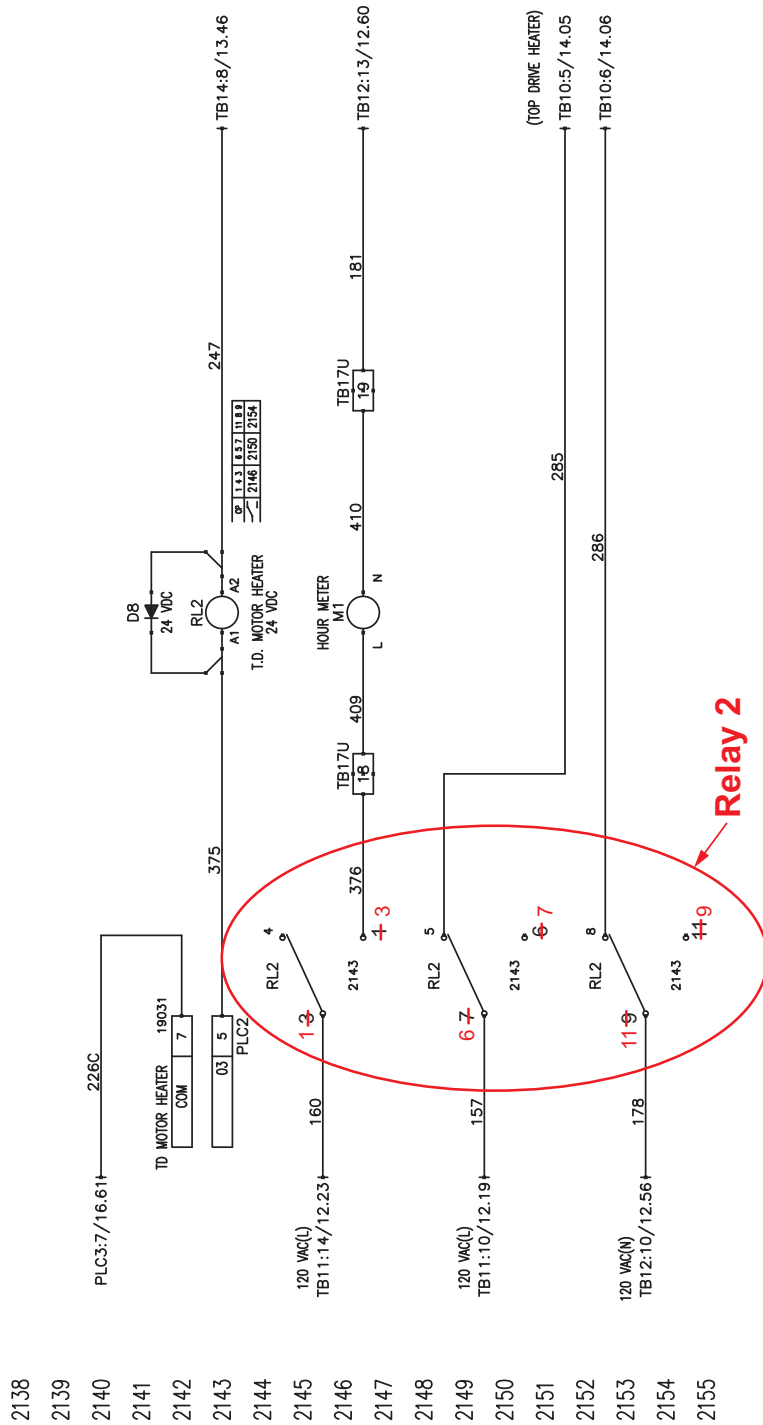

Figure 2: Detail of Relay 2 Connections
3. Inspect Relay 2 to ensure wiring is correct. For correct wiring see Figure 2 on page 3:
4. Remove wire number 160 from terminal 3 and terminate to terminal 1. Remove wire number 376 from terminal 1 and terminate to terminal 3 (see Figure 2 on page 3).
9. Update schematics in local manual by redlines (see Figure 2 on page 3).